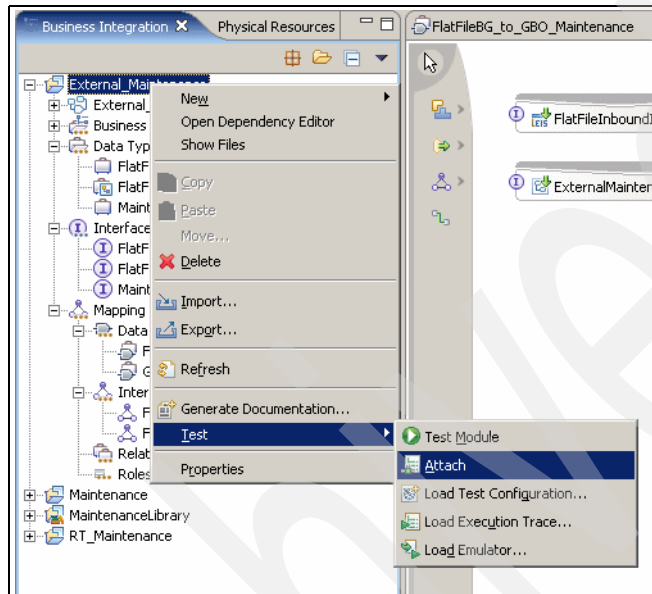

Figure 3-31 Attach
1. Right-click the **External\_Maintenance** module and click **Test** → **Attach** (Figure 3-31).